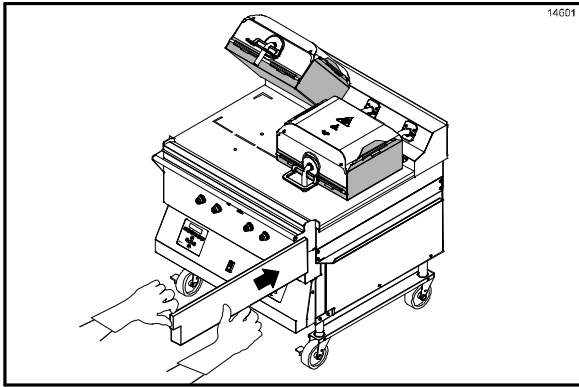

Figure 102
44. Re-install the grease pans. (See Figure 102.)